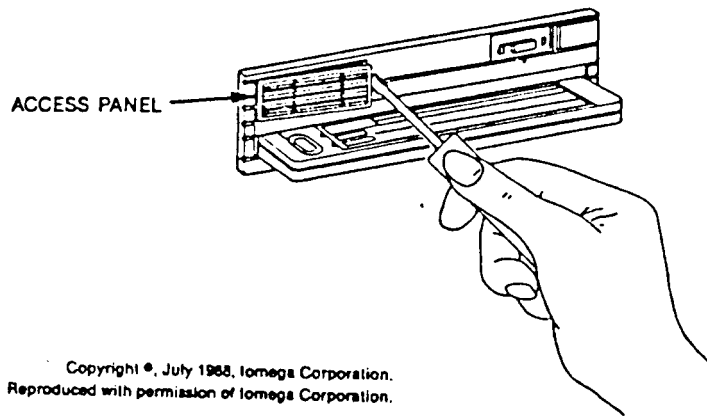

Figure 1. Access Panel Removal
2. Locate and remove the motor access panel from the front of the 44MB Disk drive assembly by using a small, flat blade screwdriver. See figure 1 for Motor Access Panel location. The manufacturers serial number should be located just inside the motor access area on the flat portion of the front panel. If the manufacturer serial number is one of the above listed serial numbers, use the following procedure to remove the drive from the Smart Interface.